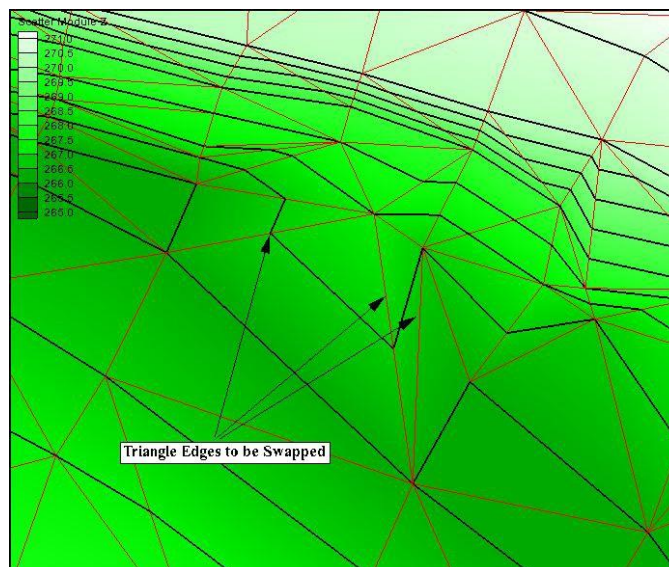
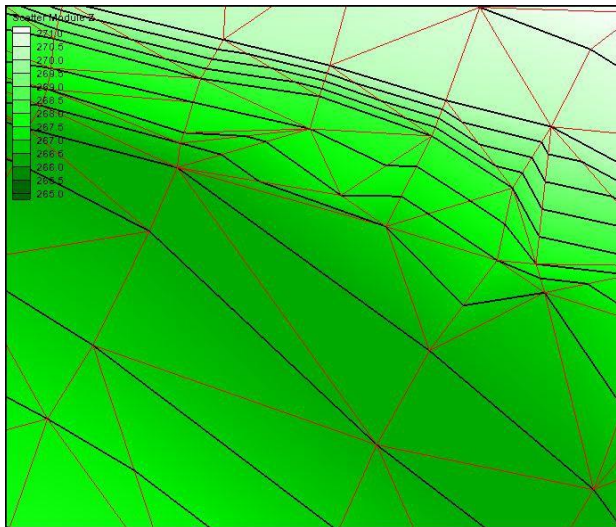

Figure 6 Zoomed out area showing triangle edges to be swapped
Figure 7 Figure showing triangle after edge has been swapped
After zooming, the screen should look like Figure 6. Note the linear contour around the edges to be swapped. It is not smooth or straight. In fact, two contours actually converge to a single line. This is possible if a vertical cliff exists, but is not likely in this situation. Natural contours tend to be smooth. A good guideline is to swap edges so that linear contours are smooth.
1. Select the **Swap Edge**  tool. Click on each of the three edges identified in Figure 6. The TIN should be edited to appear like Figure 7. Note how the two contours are now distinct and much smoother.